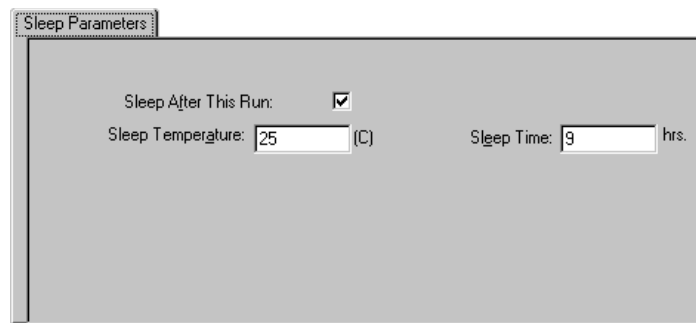

Figure 4-8. Sleep Parameters tab with Sleep After This Run selected.
1. In the **Sleep Parameters** tab of the Instrument Control window (figure 4-8), type the number of hours in the **Sleep Time** box.